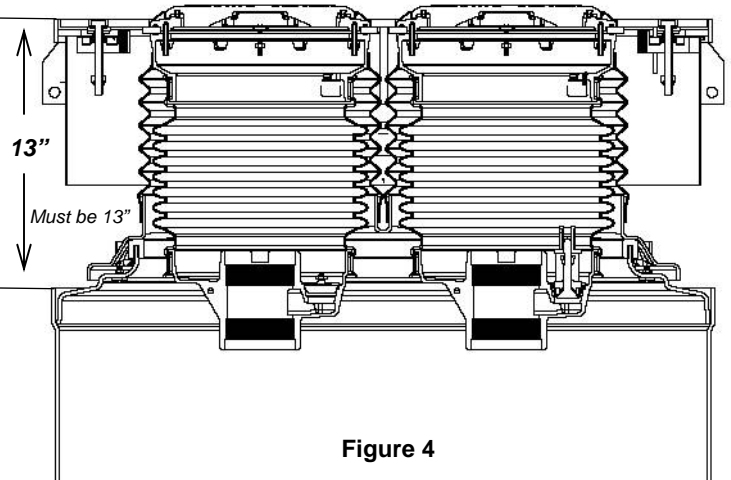

Figure 4
12. Complete Step 12 in the Multi-Port Instruction Sheet (H15225PA). **See Figure 4** for final assembly.